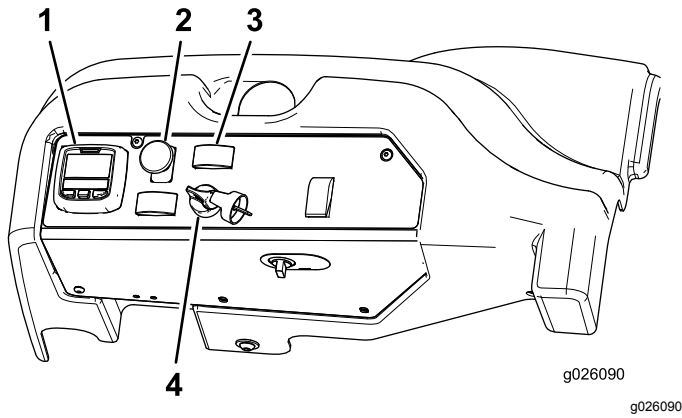

Figure 21
5. Move the power-takeoff (PTO) switch to the OFF position (Figure 21).